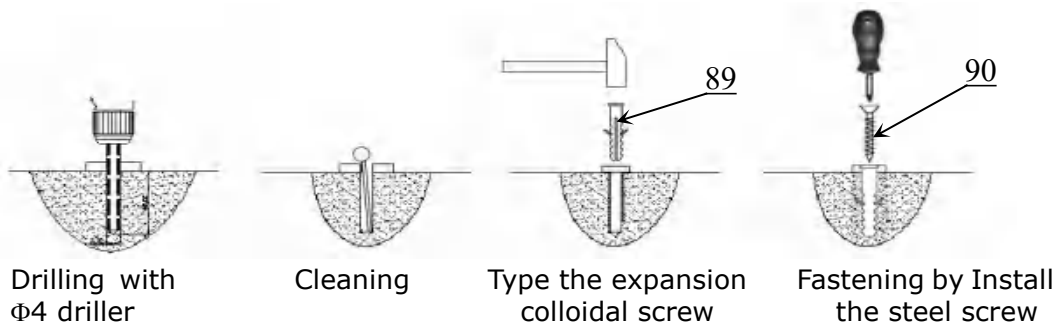

Fig. 35
2. Install the oil hose cover (See Fig. 35).